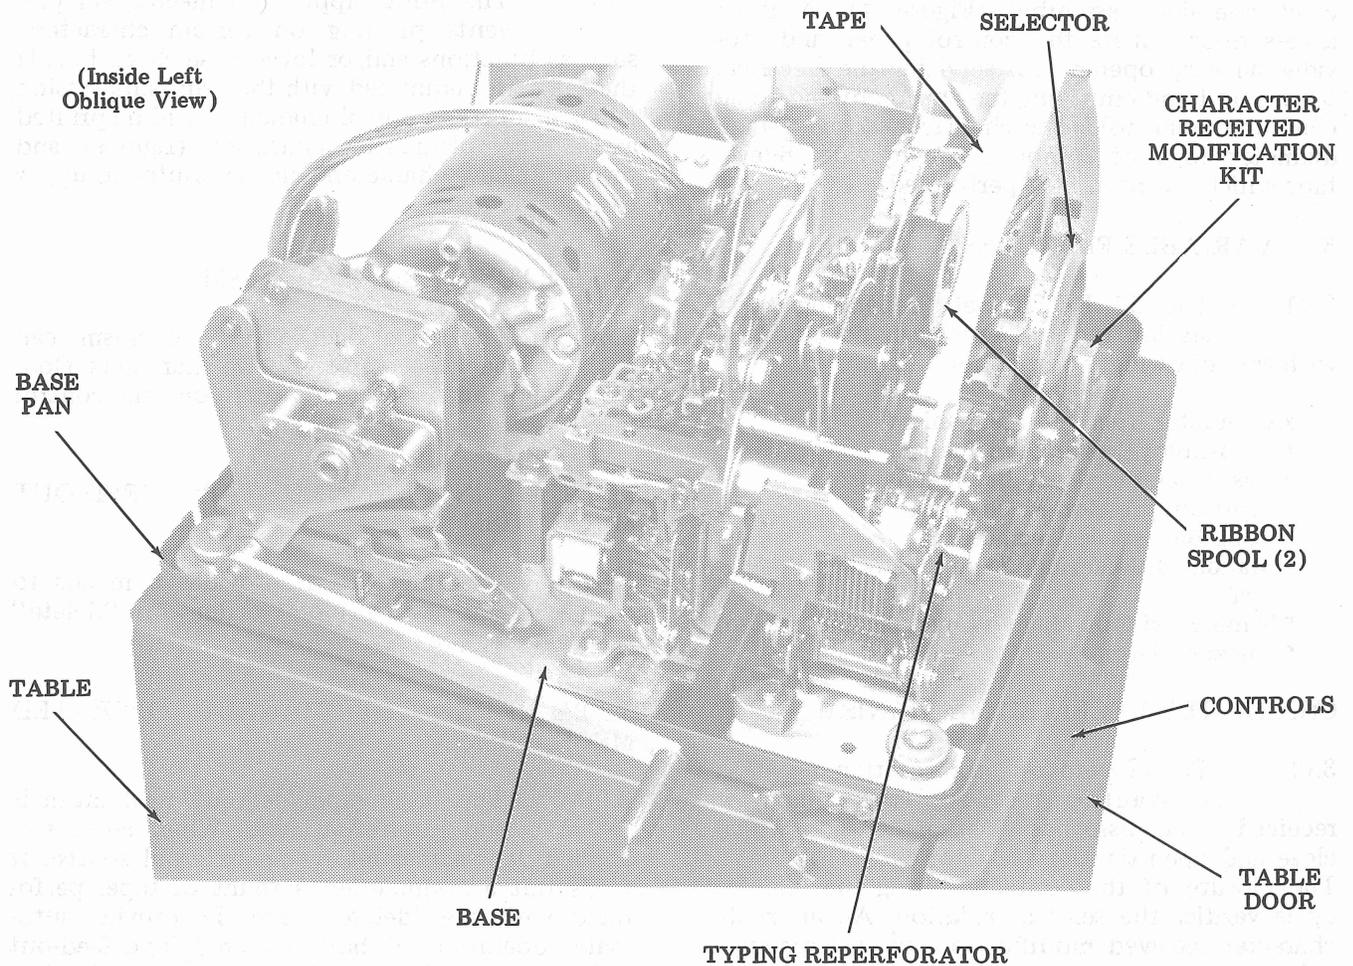

Figure 3 - 37 ROTR With Cover Open to Show Components and Base
2.06 The base provides resilient shock mountings for the typing reperforator, motor unit, intermediate drive assembly, and tape winder (Figure 3). Mounting facilities allow modifications to the typing reperforator. Wiring methods permit easy component removal.
3.02 To indicate selector rotation for each character received, the character received mechanism has a set of contacts which close and open on every selector cycle (Figure 3). The closure of the contacts during the selector cycle verifies the selector rotation. An alternate character received modification kit (interchangeable option) provides a contact break instead of a contact make when a different type of detection circuit is incorporated into the set.